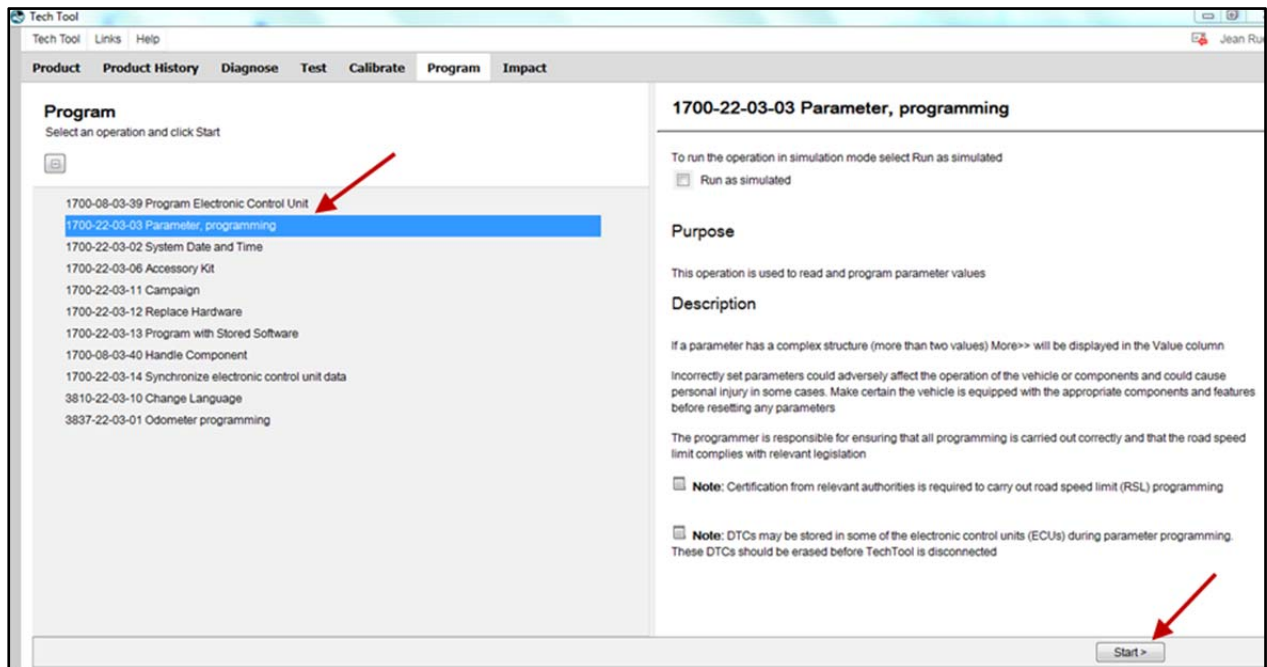

FIGURE 7
1. In Premium TechTool, select PROGRAM tab. In PROGRAM tab, select operation 1700-22-03-03 Parameter, programming then click START (FIGURE 7).